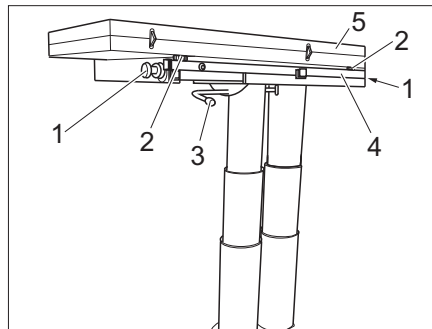

Fig. 111 Increasing the table size
- Loosen knurled screws (Fig. 111,1) on both sides.
- Swivel the catch lever (Fig. 111,3) to the left. The lift-off table is unlocked.
- Pull out the table base (Fig. 111,4).
- Fold out the table half (Fig. 111,5).
- Use the two adjusting screws (Fig. 111,2) to adjust the table-top to the desired height.
- Swivel the catch lever (Fig. 111,3) to the right. The lift-off table is locked.
- Release the locking lever (Fig. 111,3).
- Fold in the table half (Fig. 111,5).
- Screw the two adjusting screws (Fig. 111,2) in.
- Push in the table base (Fig. 111,4).
- Tighten knurled screws (Fig. 111,1) on both sides.
- Swivel the catch lever (Fig. 111,3) to the left. The lock is open.
- Screw the two adjusting screws (Fig. 111,2) in, if necessary.